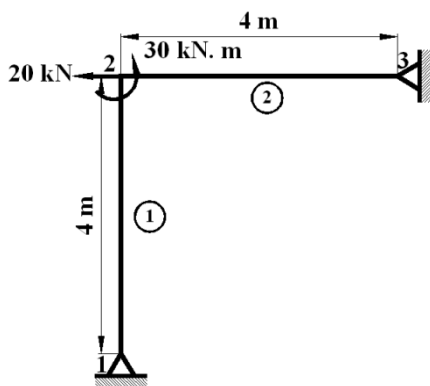

Figure P3.13
13. For the rigid frames shown in **Figure P3.13**, determine the displacements and rotations of the nodes, the element forces, and the reactions. Take $E = 210 \text{ GPa}$, $A = 1 \times 10^{-2} \text{ m}^2$ and $I = 1 \times 10^{-4} \text{ m}^4$.